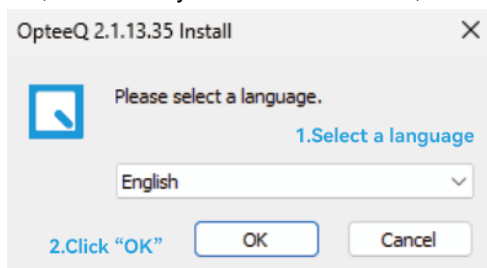

Figure 1.2 Step 2
Step 2: Language selection interface, Chinese by default. Click "OK", as shown in Figure 1.2.